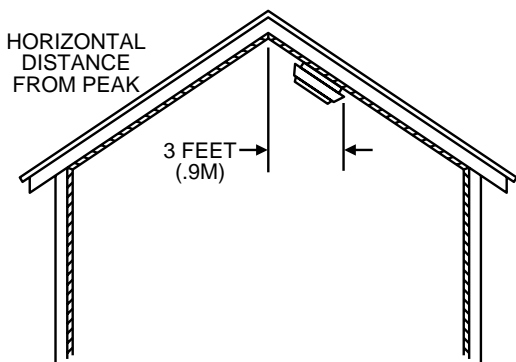

Figure 4. Sloped, peaked, or gabled ceilings.
- v Put a smoke alarm in the hallway outside of every bedroom area. A minimum of two smoke alarms are required in homes with two bedroom areas (see Figure 4).